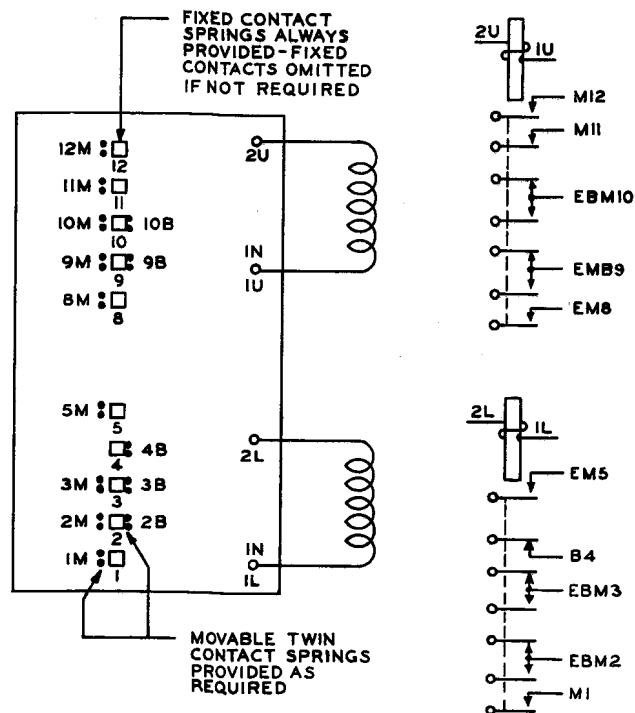

Fig. 12 - Winding and Contact Spring Arrangement as Viewed From the Front (contact side) — AK- and AM-Type Relays
**2.29 Contact Springs (front view):** As viewed from the front of the relay there are 10 contact positions arranged vertically in two groups of five each as shown in Fig. 12. The contact springs are numbered as if there were twelve positions as in the case of 12-position AF-, AG-, →AJ-, or AL-type relays shown in Fig. 8. Positions 6 and 7 are omitted, this space being taken by part of the two cards of the relay. Each position has a single fixed spring and may or may not have movable make and/or break twin springs associated with it, since not all relays have a full complement of movable springs. The make springs are located to the left of the fixed springs and the break springs to the right. The fixed springs in the lower group are numbered consecutively from 1 to 5, beginning at the bottom. The springs in the upper group are numbered from 8 to 12. The movable twin springs are numbered the same as their associated fixed springs with the appropriate suffix M (make) or B (break).
**2.31 Winding Terminals:** Winding terminals are provided as required and extend from the front of the relay, where test connections can be made, to the rear where the external wiring is connected. As viewed from the front, the winding terminals are to the right of the relay core as shown in Fig. 12. The terminals for the upper coil appear near the top of the spoolhead and those of the lower coil near the bottom of the spoolhead, the four terminals being in a vertical line. The terminals of the upper coil are designated 1U and 2U from the bottom up, and those of the lower coil are designated 1L and 2L from the bottom up. As viewed from the rear, the winding terminals are located to the left of the contact spring terminals, and are designated the same as when viewed from the front.